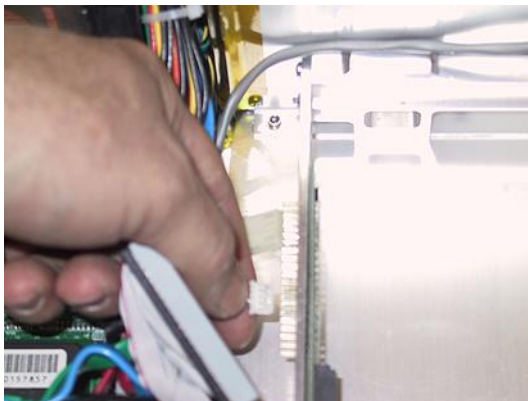

Figure 5-72
- 5) Remove the CD/Audio cable as illustrated in Figure 5-72.